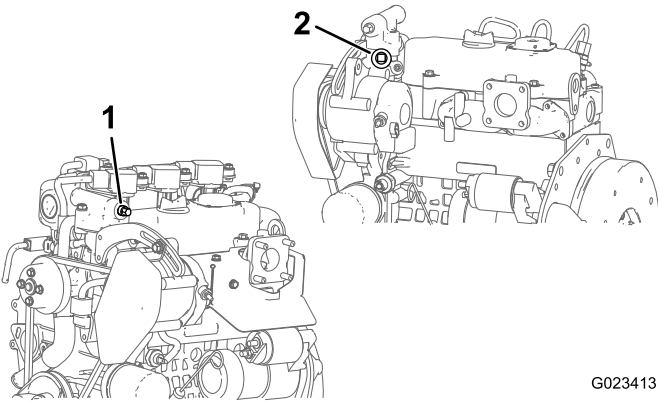

Figure 10
- Remove the plug or temperature switch depending on the type of engine in the machine (Figure 10).
- For gas engines: Remove the plug in the thermostat housing and install the 5/8 inch straight fitting with a worm clamp (Figure 10).
- For diesel engines: Remove the temperature switch from the thermostat housing and install a tee fitting (Figure 10).